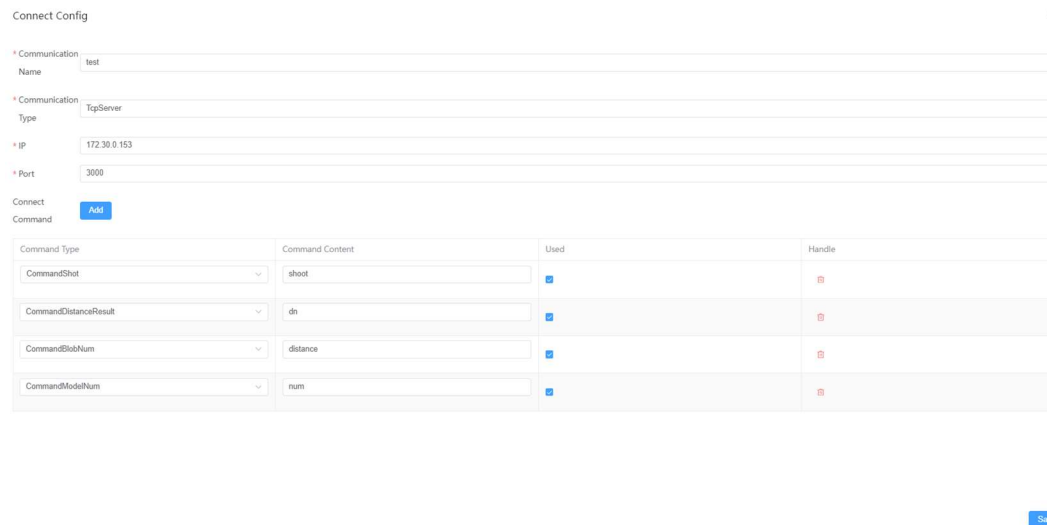

Figure 9.2.3 Communication Settings
Step 3: Communication settings: in the communication settings module, click "Add". In this flowchart, four commands are required, namely "Camera Capture", "Number of Templates", "Number of Intersections", and "Distance Calculation Result" as shown in Figure 9.2.3: